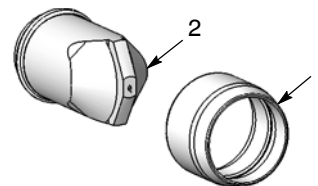

Figure 20 Nozzle and Retaining Nut
2. See Figure 20. Unscrew the nozzle (2) from the retaining nut (1).